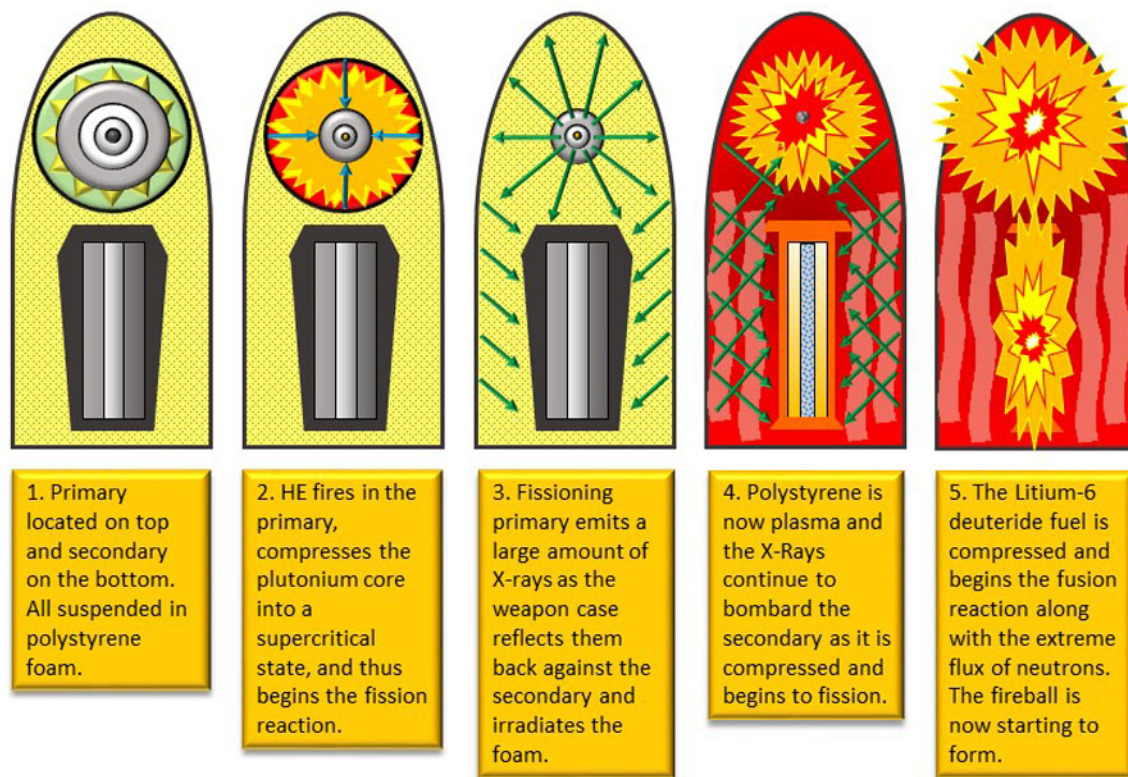

Figure 3-9. Implosion type thermonuclear device.
1. In the form of metallic salts (such as isotopes of lithium) (fig. 3-9), which release deuterium and tritium gas upon bombardment by neutrons and exposure to intense heat. Incorporate fusion material in these weapons directly in the design of the fission device, separated, but next to the fission device.